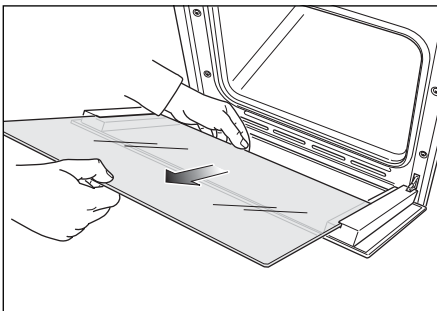

Fig.21e
- Gently pull out the inner pane of glass (Fig. 21e).